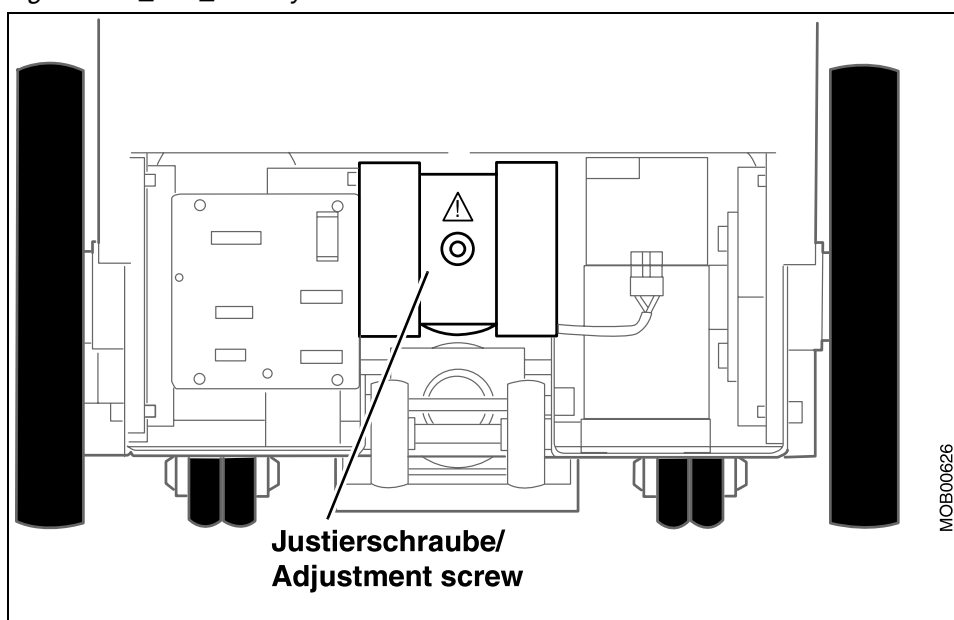

Fig. 48: *Adjusting the counterweight*
- ⇒ Adjust the arm system with the adjusting screw (Fig. 48 / p. 57) until it is balanced in any position.